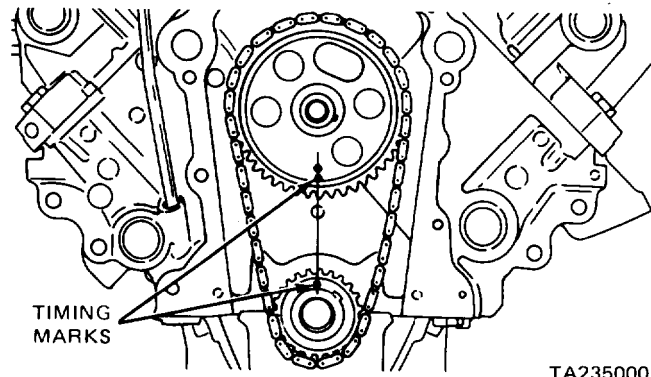

Figure 11-37. Alinement of Timing Marks.
- (1) Place both the camshaft and crankshaft sprockets on the bench with the timing marks on the exact centerline through both camshaft and crankshaft bores,
- (2) Place the timing chain around both sprockets.
- (3) Turn the crankshaft and camshaft to lineup with the keyway location in the sprockets.
- (4) Lift the sprockets and chain (keep the sprockets tight against the chain in the position described).
- (5) Slide both sprockets evenly over their respective shafts, and use a straightedge to check alignment of timing marks (figure 11-37).